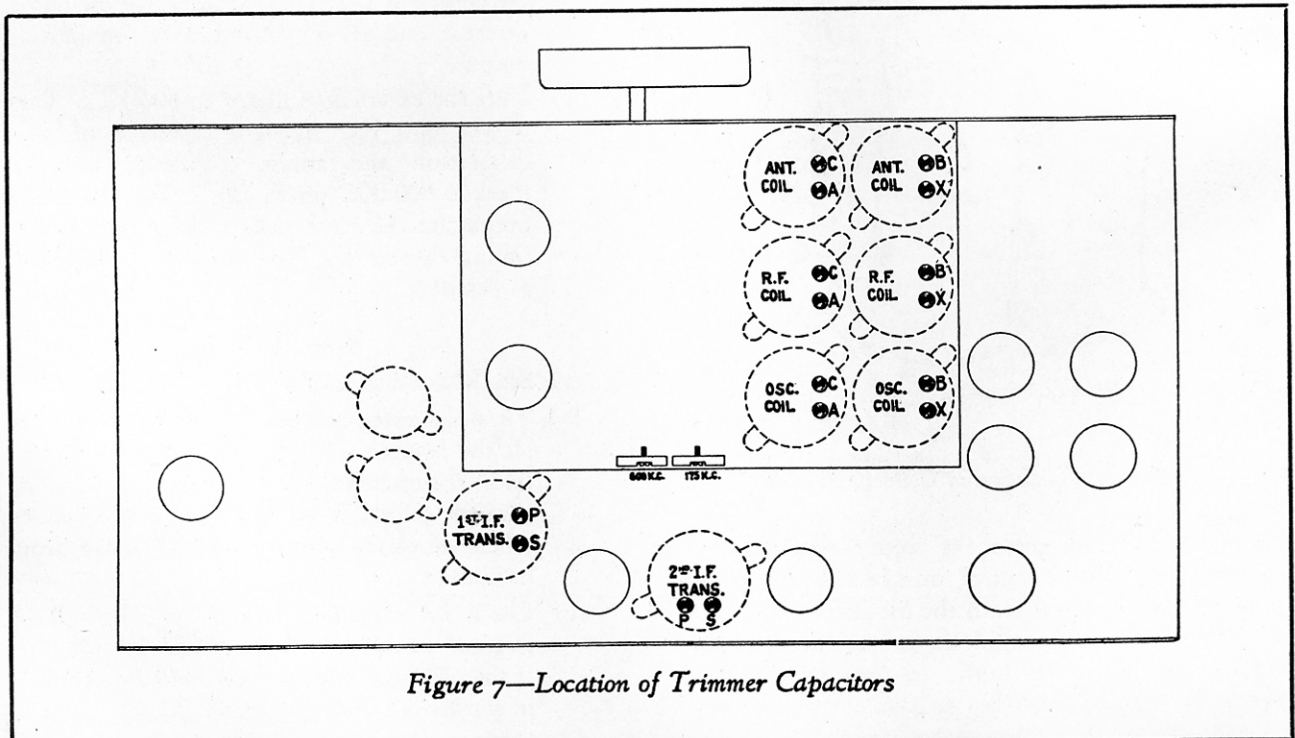

Figure 7—Location of Trimmer Capacitors
- (c) Refer to Figure 7. Adjust each trimmer of the I. F. transformers until a maximum output is obtained. Go over the adjustments a second time.
Figure 7 shows the location of the trimmers for each band. Care must be exercised to only adjust the trimmers in the band under test.
- (c) Shift the external oscillator to 175 KC. Tune in the 175 KC signal irrespective of scale calibration and adjust the series trimmer marked 175 KC on Figure 7, for maximum output, at the same time rocking the variable tuning capacitor. Then readjust at 410 KC as described in (a).
- (c) Shift the external oscillator to 600 KC. Tune in the 600 KC signal irrespective of scale calibration and adjust the series trimmer, marked 600 KC on Figure 7, for maximum output, at the same time rocking the variable tuning capacitor. Then readjust at 1720 KC as described in (a).